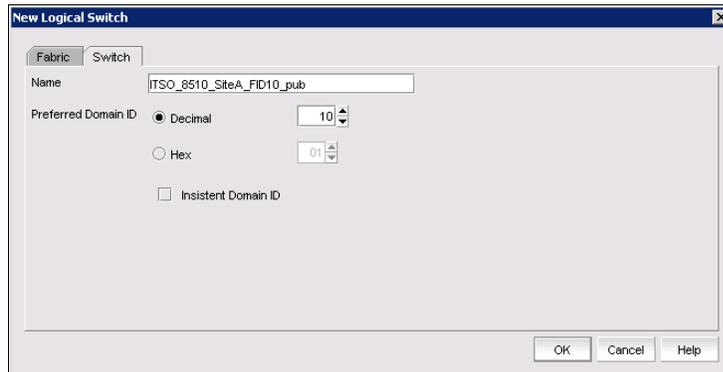

Figure 6-29 Assign switch name and domain ID
- Assign the switch name and domain ID to this logical switch (Figure 6-29). Here we use 10 for the domain ID of this logical switch.